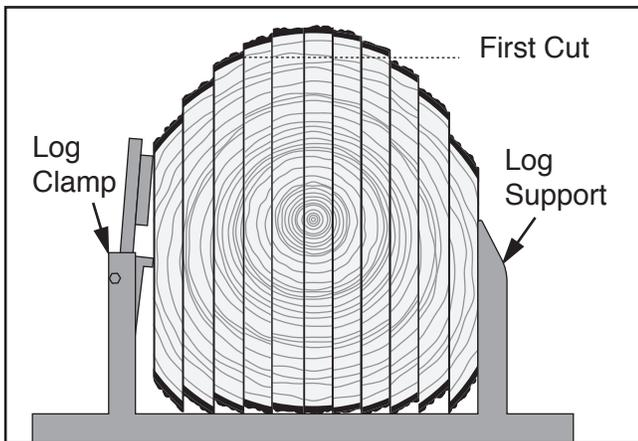

Figure 86. Flitches secured to track bed for edging.
1. Clamp multiple flitches to track bed, using log supports to ensure flitches are perpendicular to track (see **Figure 86**). Take care that log clamps hold flitches tight against supports.
2. Cut to remove bark from the tallest flitches. Cut as many flitches as possible without wasting excessive lumber (see **Figure 86**).